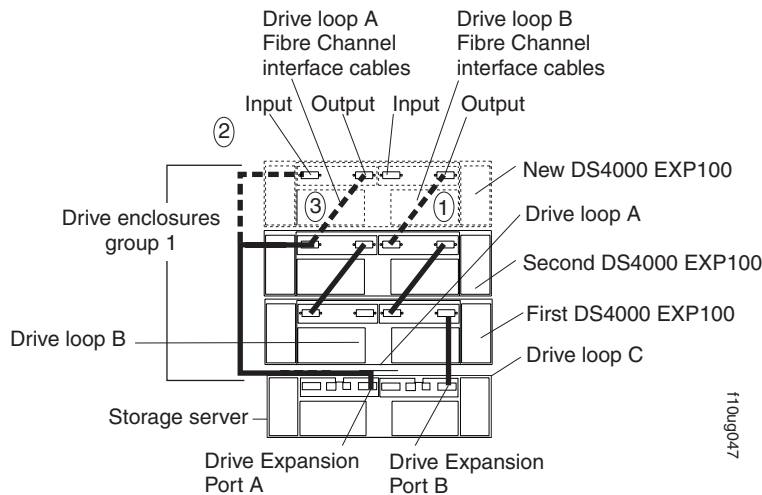

Figure 78. Cabling the DS4100 to a redundant loop
Figure 78 on page 110 shows the process of adding an additional DS4000 EXP100 to an existing DS4100 storage server configuration. Drive loops A and B form one redundant fibre-channel loop.
In Figure 78, the existing DS4100 configuration already includes two DS4000 EXP100s. The dashed lines show you how to add a third DS4000 EXP100 to the configuration. To add the new DS4000 EXP100 shown in Figure 78, you would perform the following steps:
3. Make the fibre-channel connection marked 1 in Figure 78 (drive loop B). Then power on the new DS4000 EXP100 and verify that it is recognized by the DS4000 Storage Manager software GUI.
4. Make the fibre-channel connection marked 2 in Figure 78.
5. Make the fibre-channel connection marked 3 in Figure 78 (drive loop A).